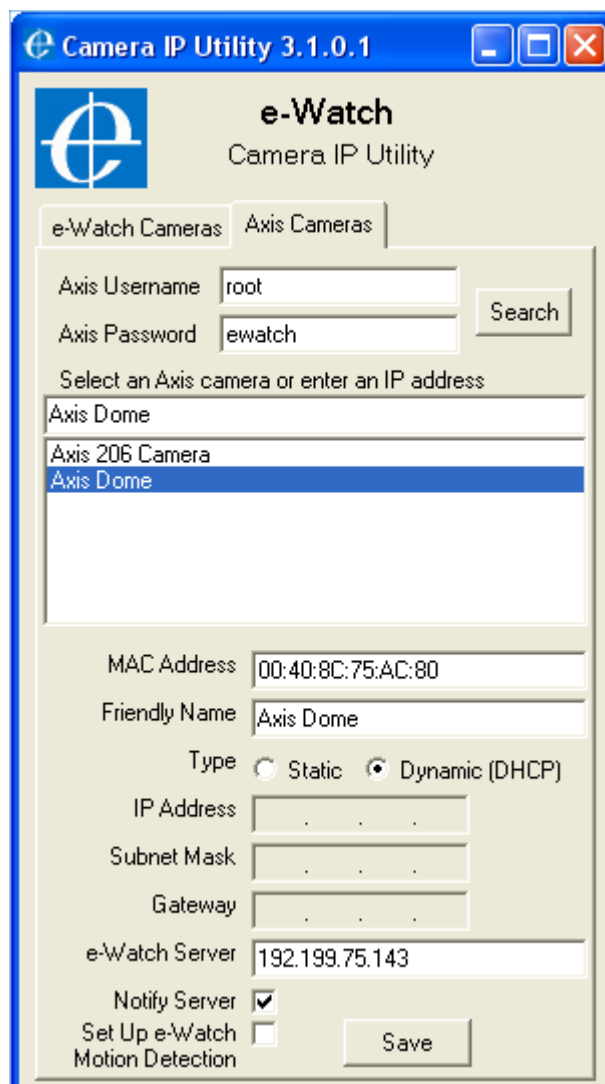

Figure 4-4. Connecting Axis Camera Using e-Watch Camera IP Utility
You can use the e-Watch Camera IP utility to connect Axis cameras if the operating system on the e-Watch Service does not support SSDP (e.g. Microsoft Windows Server 2003). See Figure 4-4.
- Figure 4-4. Connecting Axis Camera Using e-Watch Camera IP Utility 13